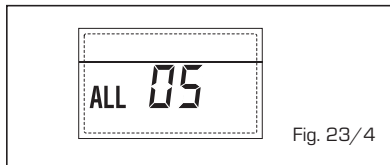

Fig. 23/4
**- FLAME BLOCK ALARM 06 (fig. 23/5)**